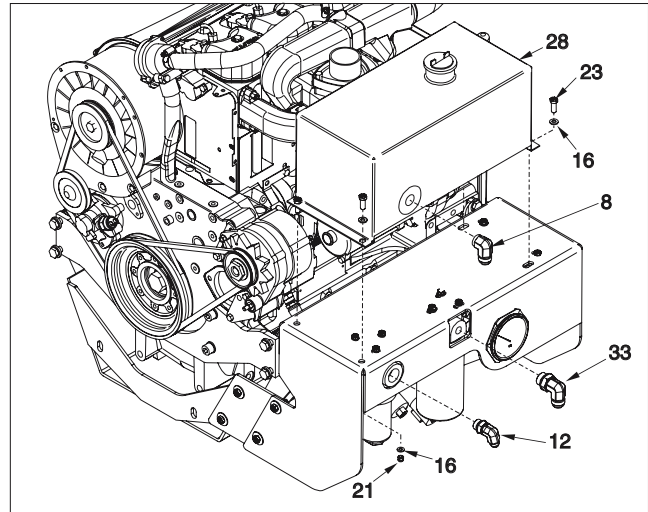

Figure 10 - Install Tank and Fittings
A. Place tank on tank mount (see Figure 10) and tighten bolts.
B. Place fittings in high pressure filter and oil filter (see Figure 10).